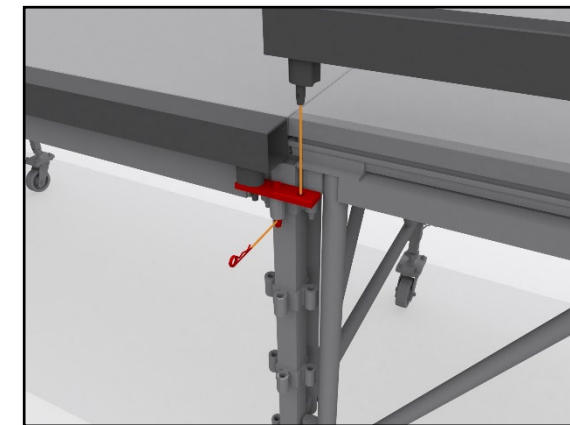

Fig. 36 – Node Bracket
9.3.3 Where two Fascias require the same hole of the Node Post, install, the small Node Bracket first. This creates additional holes for the connections to locate into. *Fig. 36 – Node Bracket*